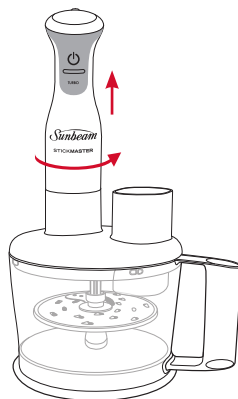

Figure 14
10. To detach the motor body, twist the shaft in an anti clockwise position until the motor body unscrews from the processing bowl. See Figure 14.